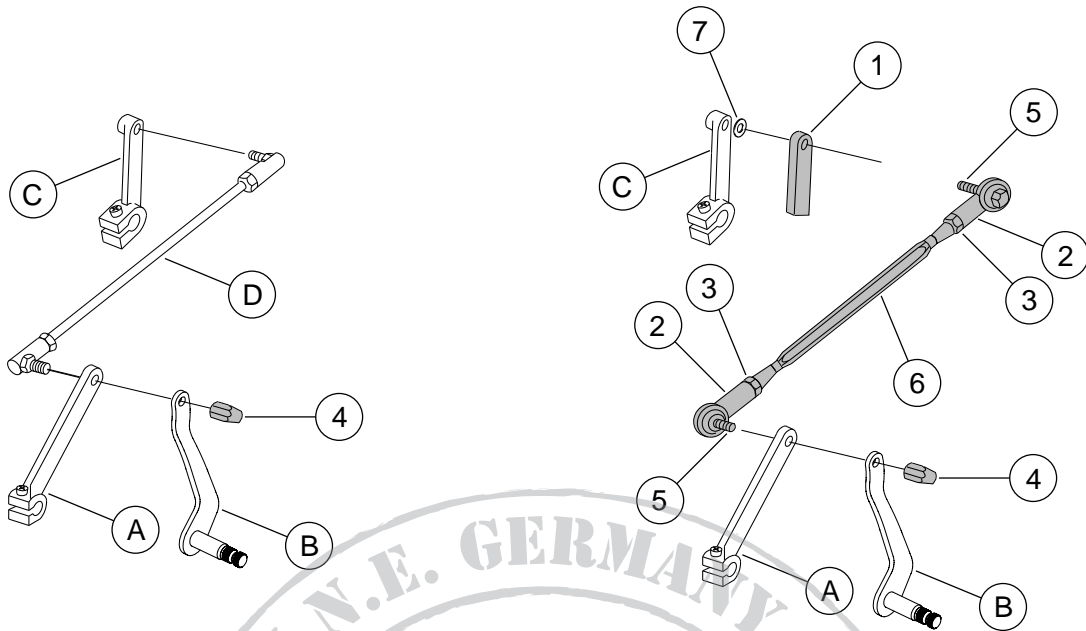

Figure 1. Service Parts: Aluminum Shifter Linkage
See Figure 1 and Table 2.
- See Figure 1. Remove stock shifter rod (D).
- Adjust new shifter rod in kit to match the length of the removed shifter rod by loosening locknuts (3), adjusting the length of the rod, then tightening locknuts to 20-24 ft-lbs (27-32 Nm).
- For models with a straight rear shifter rod lever:** Discard spacer (7). Place cover (1) over the shifter rod lever (C).